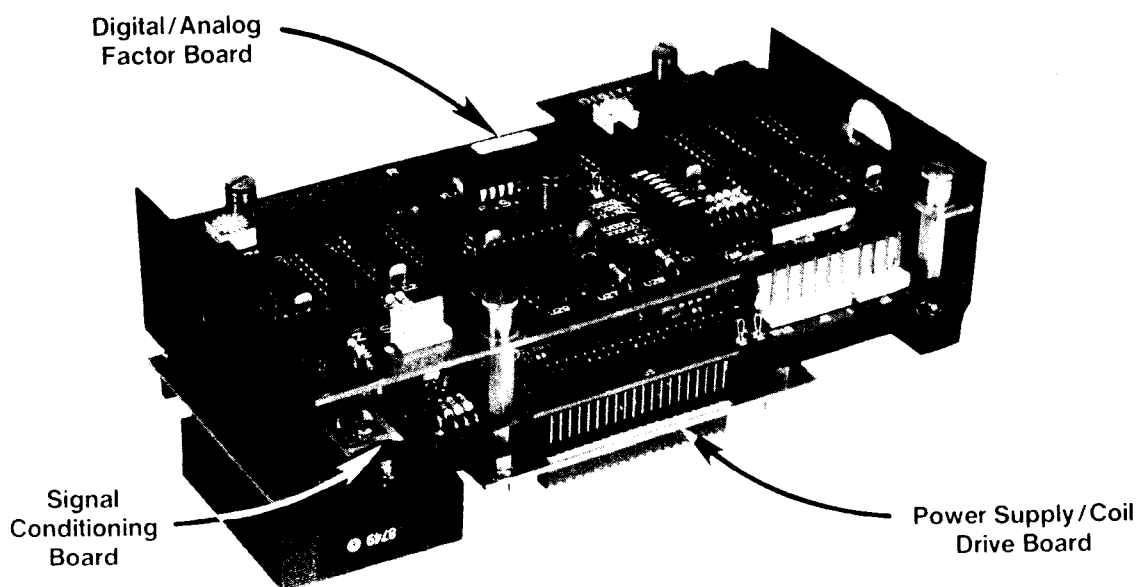
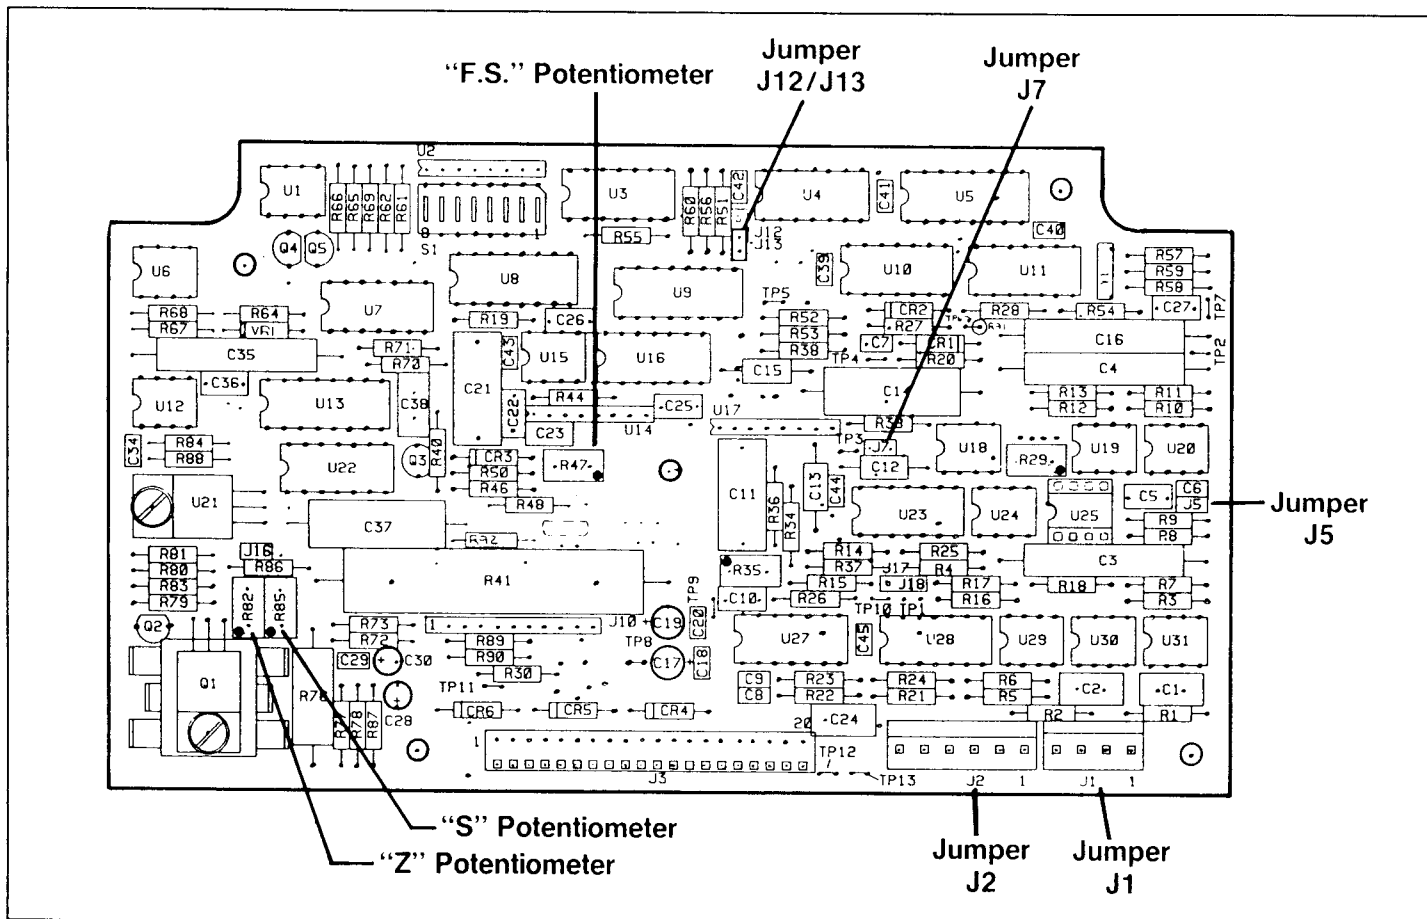

Figure 6-1 Support Bracket and Electronic Module Assembly
Figure 6-2 Signal Conditioner Board
- C. The FMG-700 Series is normally supplied as a three board module which includes a power supply, signal conditioning and factor board, refer to Figure 6-1. The K-factor, unless otherwise specified, is expressed in pulses per gallon in the meters/second mode. If the meter is only to be operated in the lower one third (1/3) of the specified range, an improvement in low flow performance will be realized by removing the RANGE JUMPER J7. Jumper J7 is located on the signal conditioner board, refer to Figure 6-2 and Table 6-1.
4. The Analog Zero/Span Potentiometers are located on the Signal Conditioning Board (center board), and are accessible through holes in the Factor Option Board, refer to Figure 6-2.